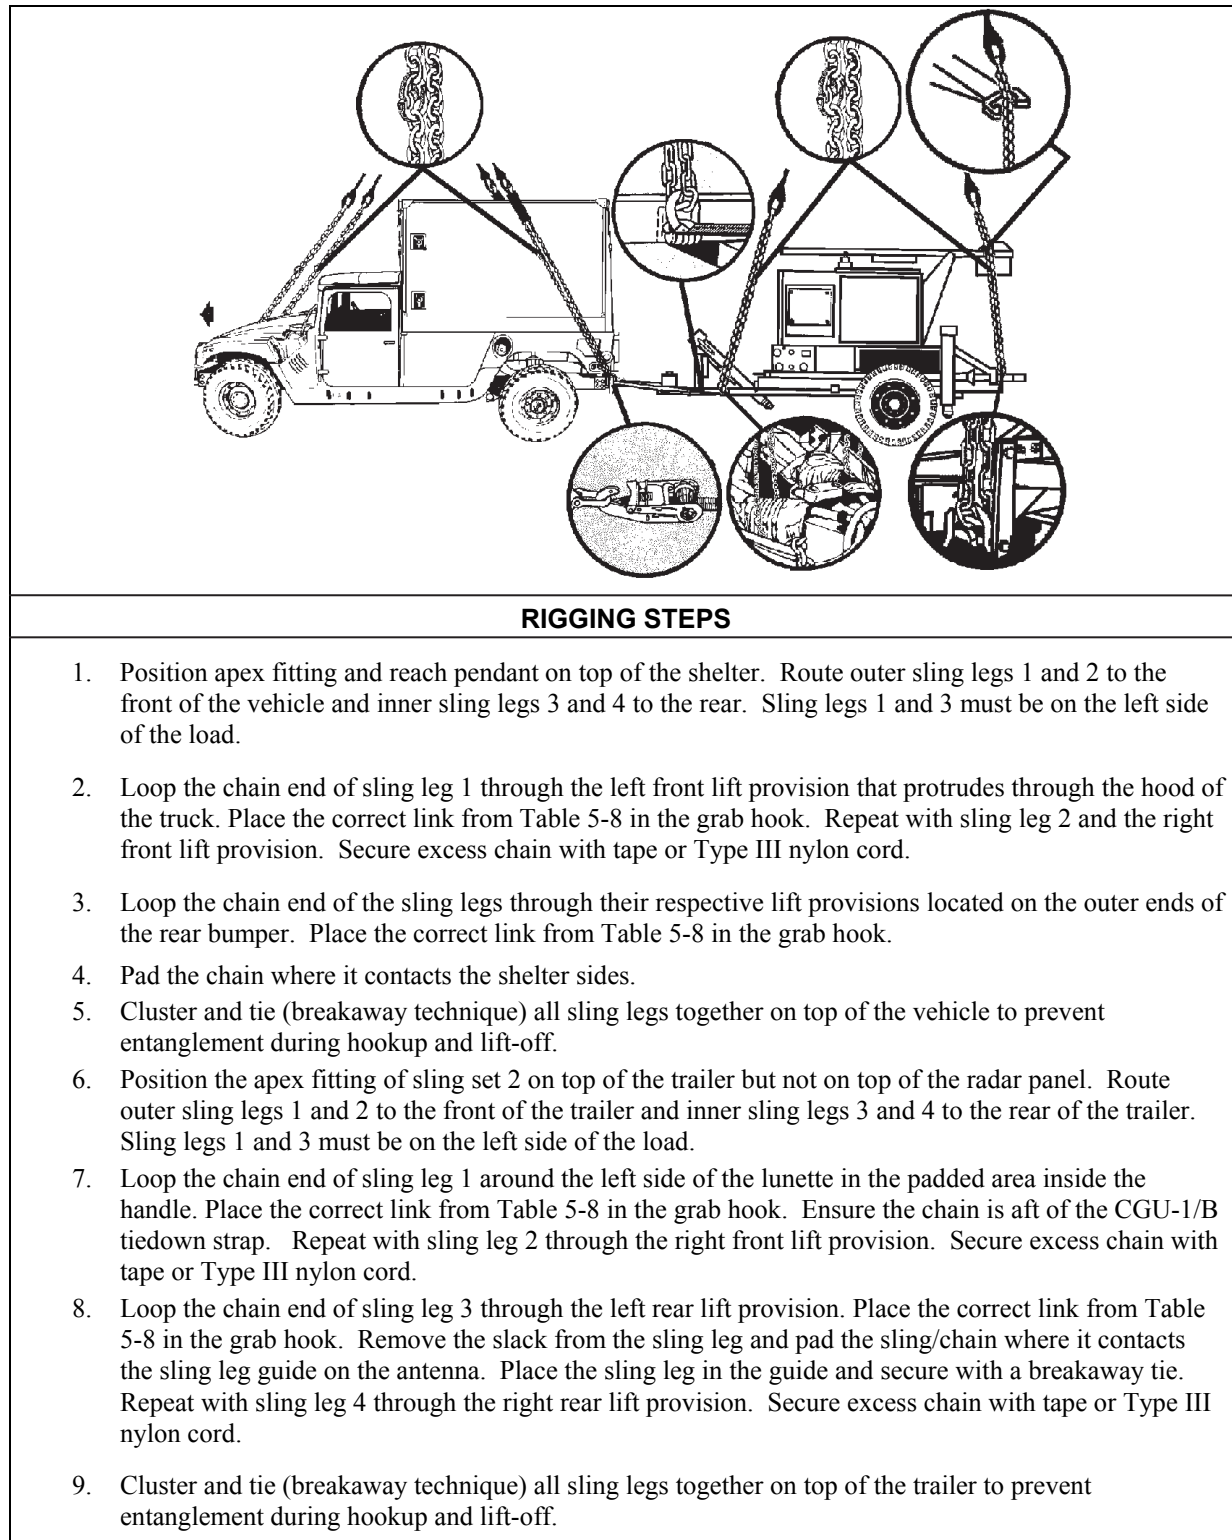

Figure 5-8. M1037 Shelter Carrier, 1-1/4 Ton with AN/TPQ-36, (S-250 Shelter), Operations Control Group and Radar Set Antenna Mounted on M103A1 Trailer
- **Rigging.** Rig the load according to the steps in Figure 5-8.